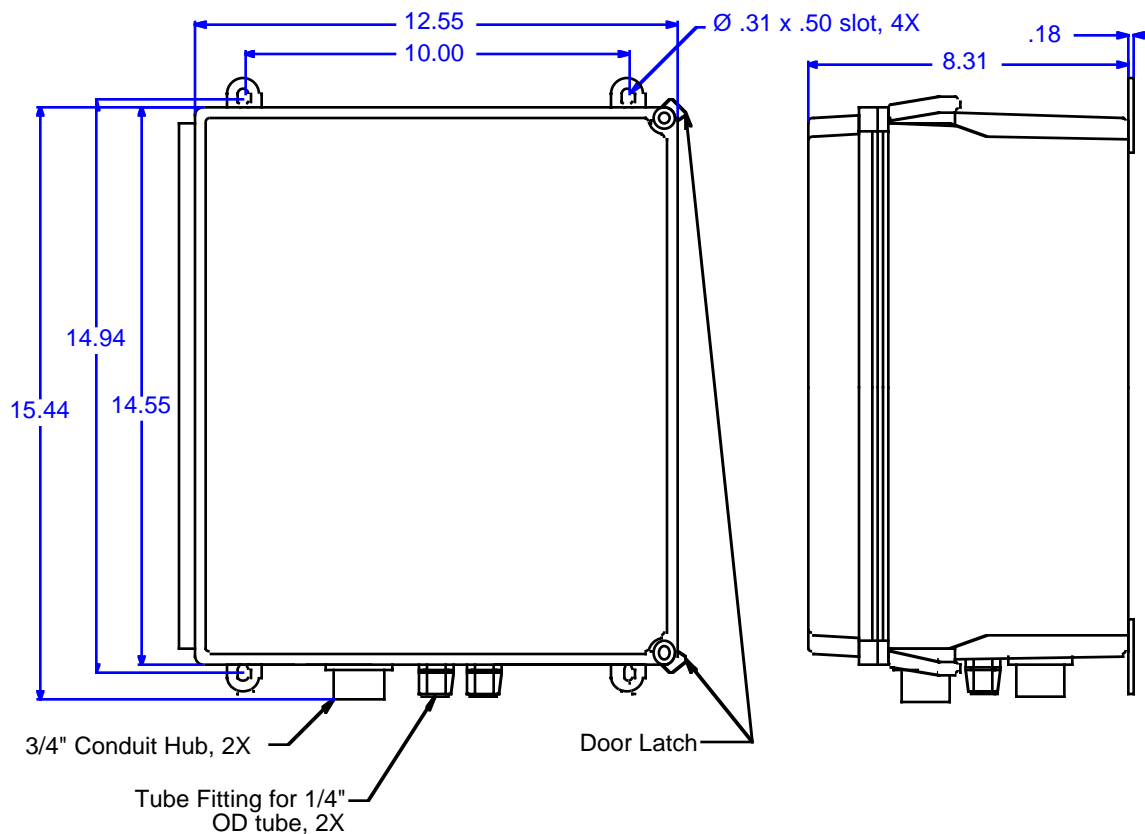

Figure 5: Mounting the Sample-Draw Detector
3. Slightly loosen the screw that secures one of the mounting feet to the housing, then rotate the mounting foot 180 degrees (see Figure 5).